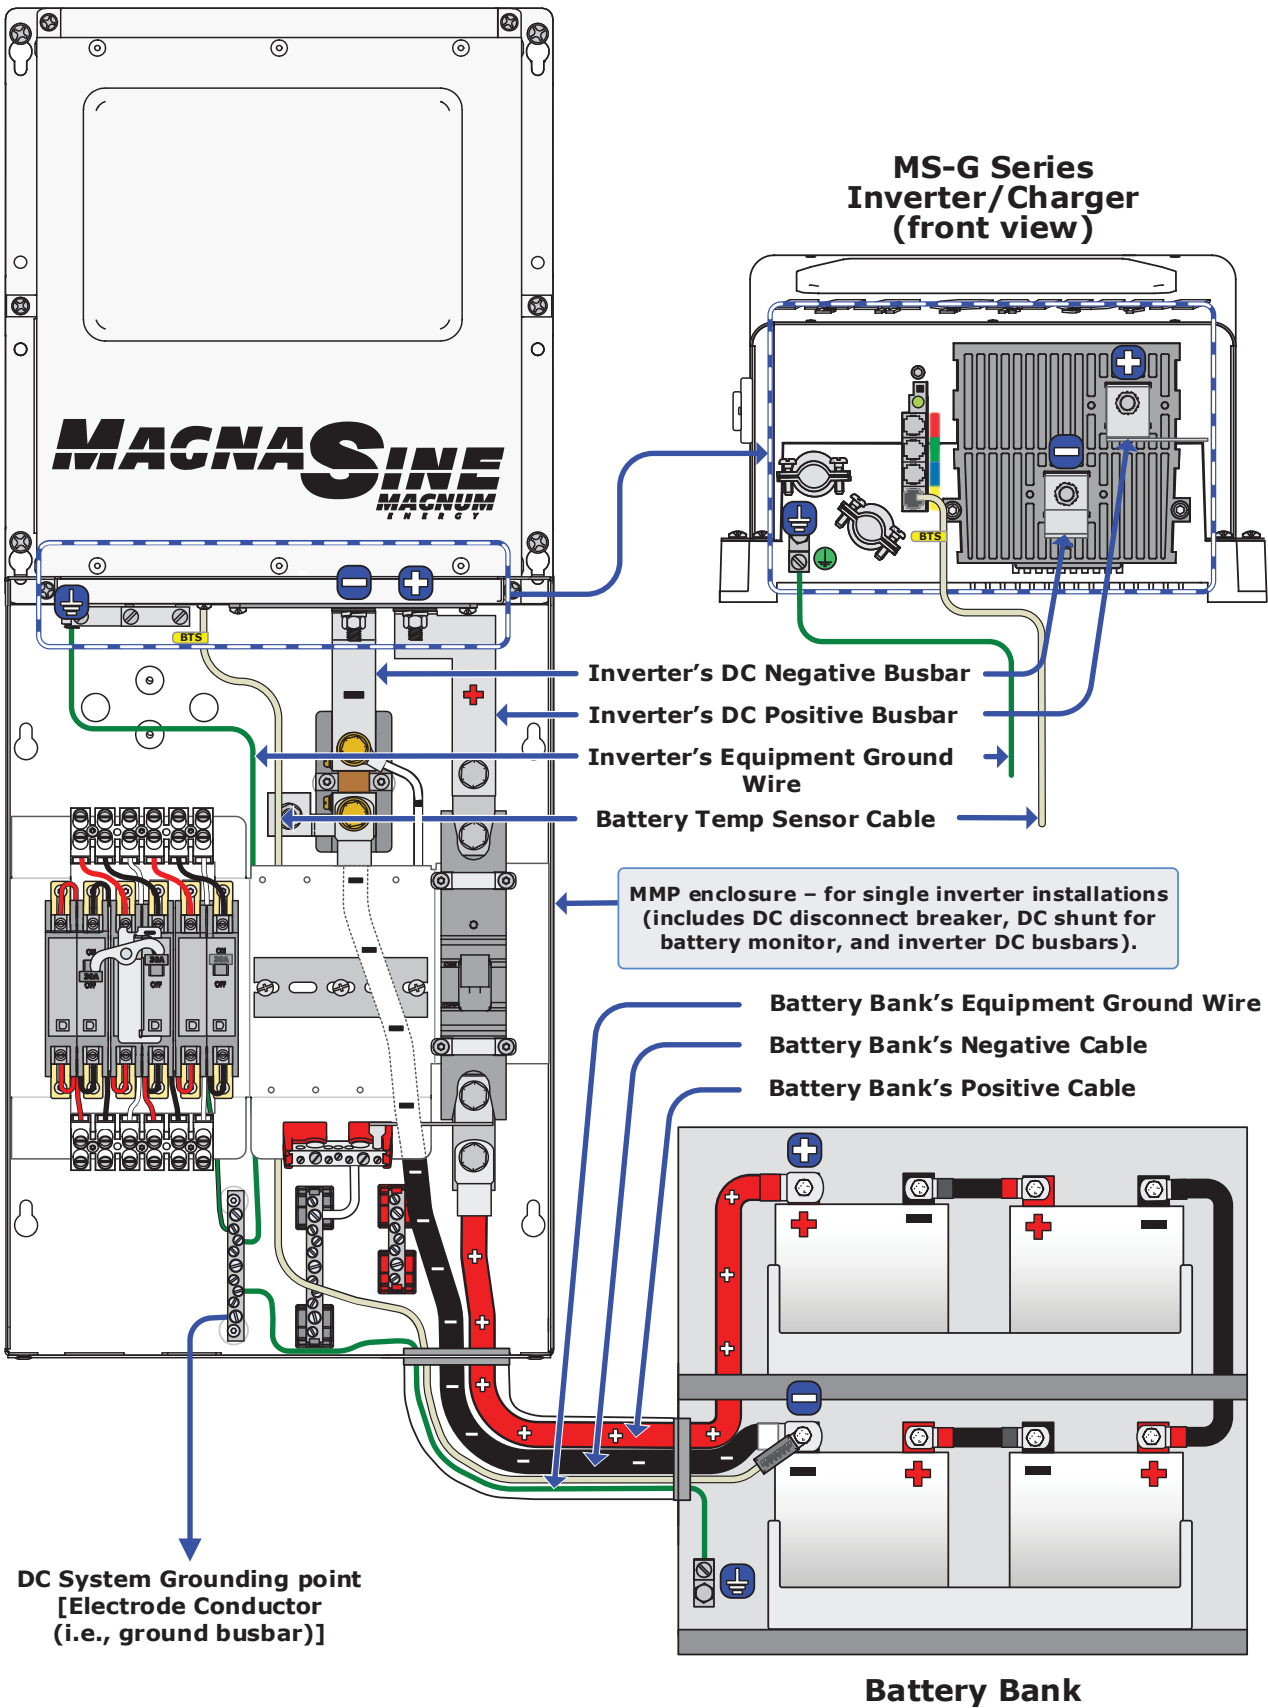

Figure 2-6, DC and Battery Temperature Sensor Wiring
This section describes the inverter's required DC wire sizes, the recommended disconnect/overcurrent protection, and how to make the DC connections to the inverter and the battery bank. Refer to Figure 2-6 when connecting the DC wires.
**Note:** Figure 2-6 shows the MS-G attached to MMP enclosure.